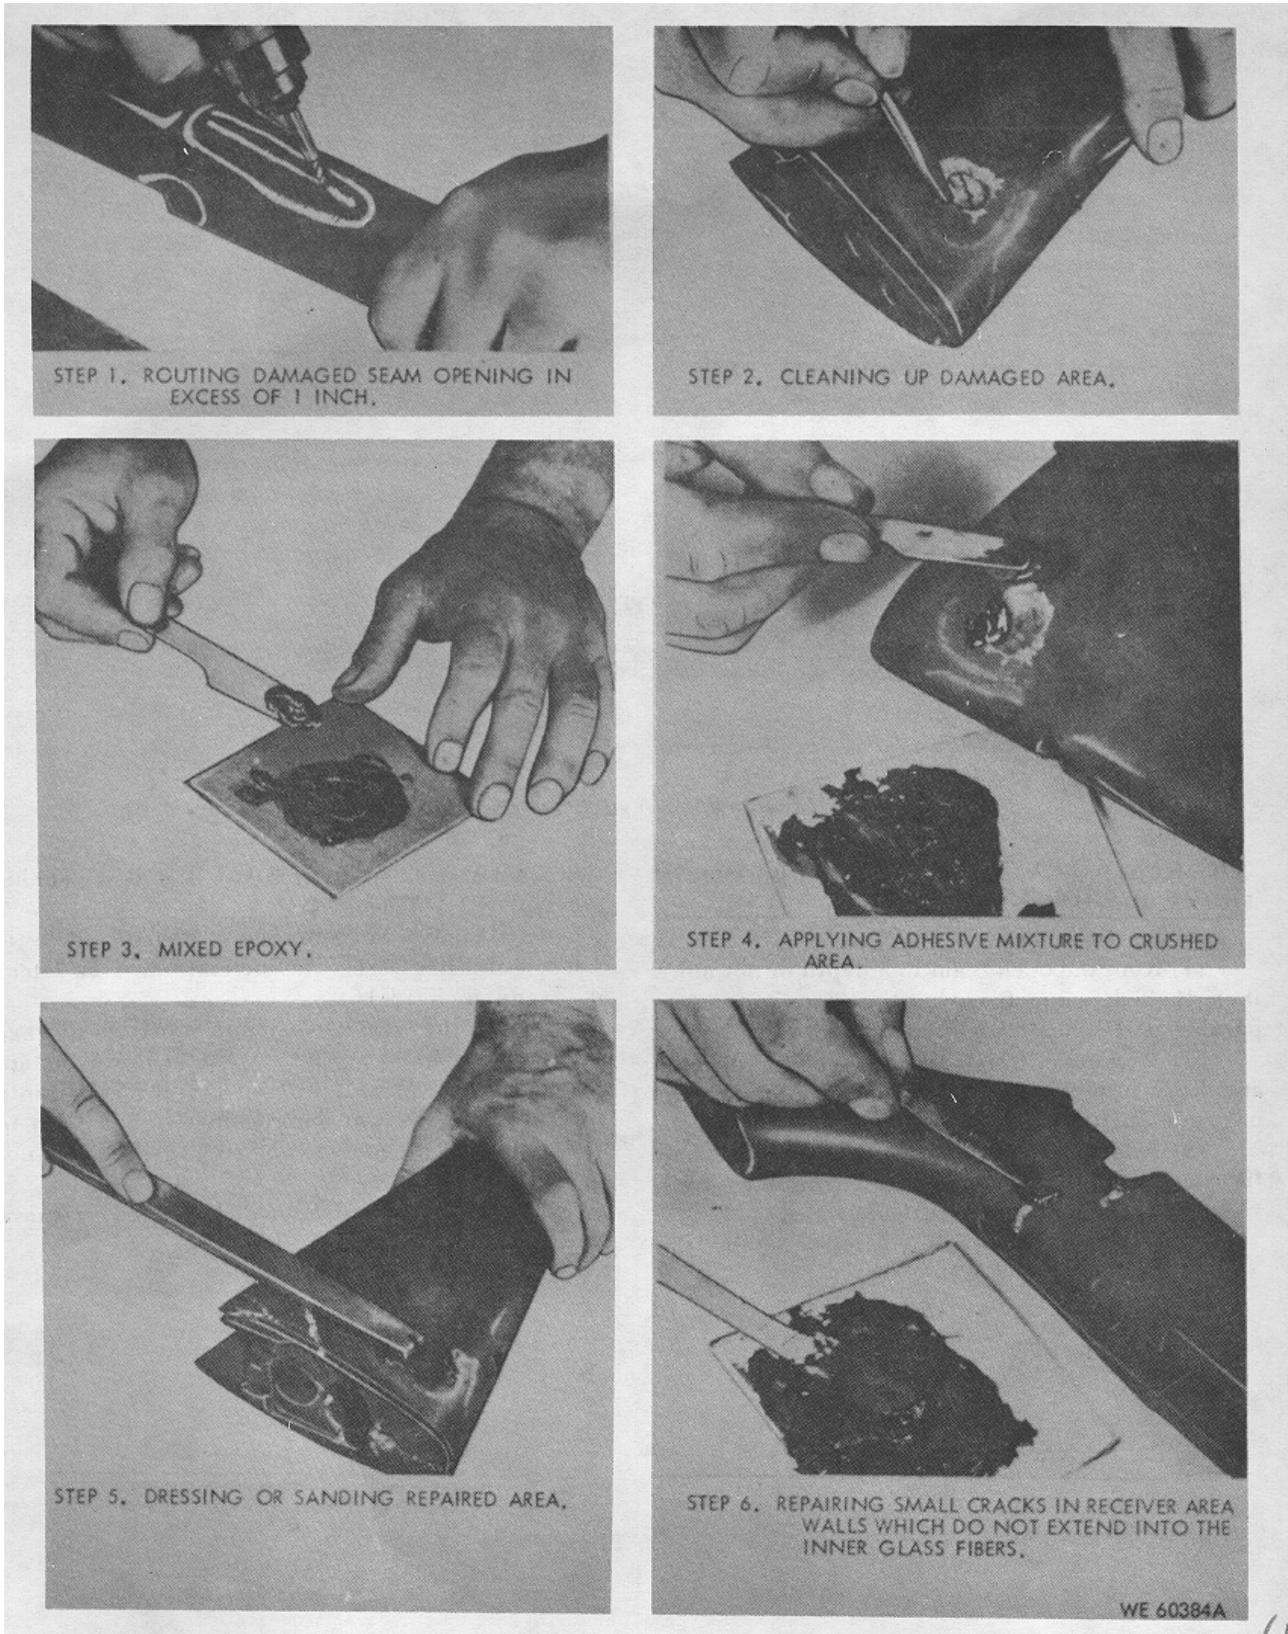

Figure 3-16. Repairing fiber glass / plastic stocks with epoxy adhesive (M14 Rifle and M79 Grenade Launcher).
(1) Rout the open seam to a depth of not more than 1/8 inch using file, chisel, end mill or comparable cutting tool (step 1, fig 3-16).
(2) Remove all residue; mix epoxy adhesive and force into routed area. Permit the mixture to protrude slightly above the filled area.
(3) Allow the epoxy adhesive to harden and file excess adhesive flush with the surrounding area.
(1) Remove all residue from within the
damaged area (step 2, fig 3-16). Use dry cleaning solvent (SD), if necessary.
(2) Apply the adhesive mixture; allow to harden and file flush with surrounding area (steps 4, 5 and 6, fig 3-16).
(3) If the damage extends into the stowage holes of the M14 stock, a wooden dowel of appropriate size can be lightly oiled and inserted into the stowage hole. The epoxy adhesive will form to the contour of the pin and the stowage hole will not be clogged.
(4) After adhesive has hardened, remove dowel pin.